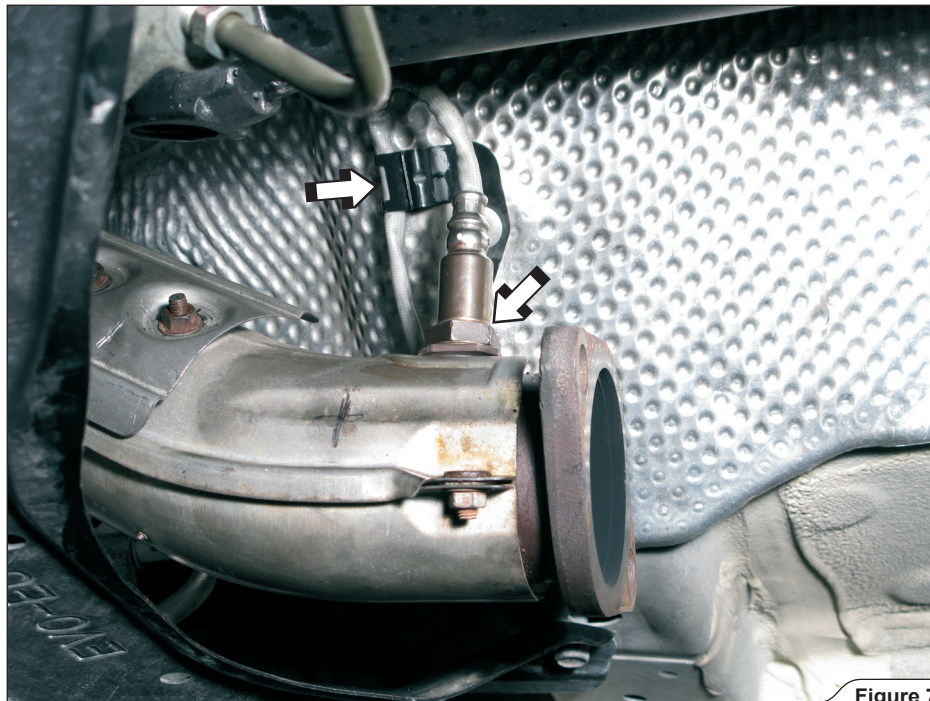

Figure 7
6. **For optional Down Pipe only:** undo the lambda sensors' electrical lead and unscrew the lambda sensor (**Figure 7**).